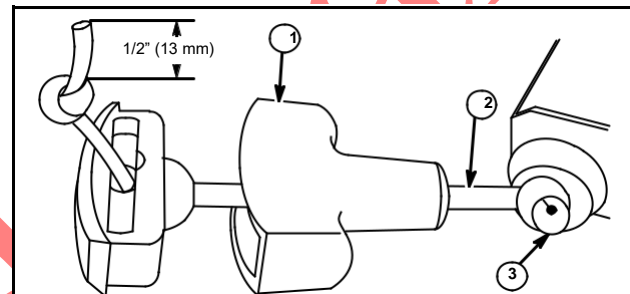

Fig. 40
1. While still holding pulley, tie a temporary knot (3) part way out on rope.
3. Insert rope (2) through starter handle (1) and start-er handle insert, Fig. 40.
6. Operate starter to check for smooth operation, Fig. 40.